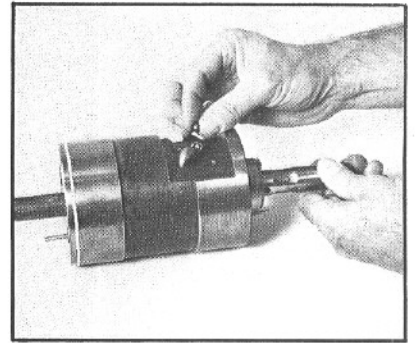

Figure 101
7. Assemble 27 steel balls (42) into the ball return guide through the hole provided in the top of the guide. As you drop the balls into the guide, rotate the worm shaft (17) to pull the balls down into the grooves (FIG. 101).